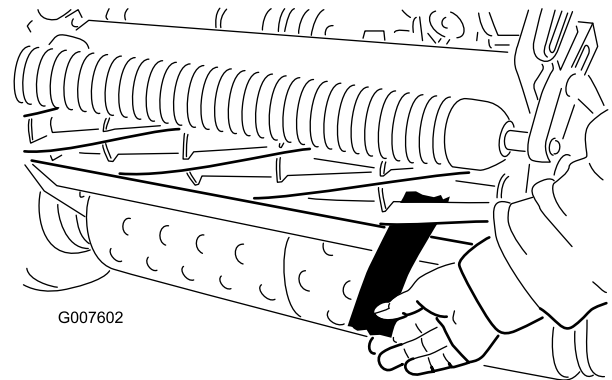

Figure 46
12. Test the cutting performance by inserting a long strip of cutting performance paper between the reel and bedknife, perpendicular to the bedknife (Figure 46). Slowly rotate the reel forward; it should cut paper.